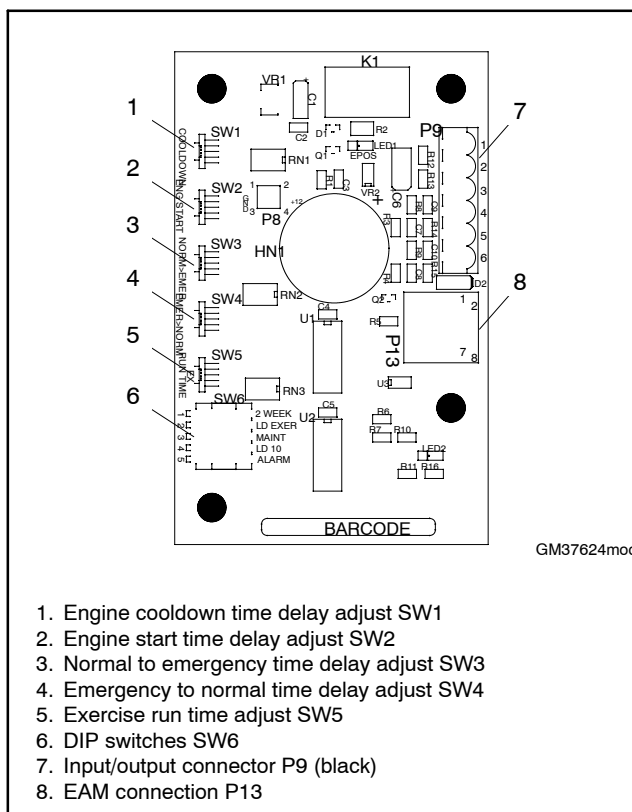

Figure 5-19 Accessory Board Component Locations
- Check the timer switch and DIP switch settings on the accessory board. See Figure 5-19 and refer to the Transfer Switch Operation/Installation Manual, MP-6345, for instructions.